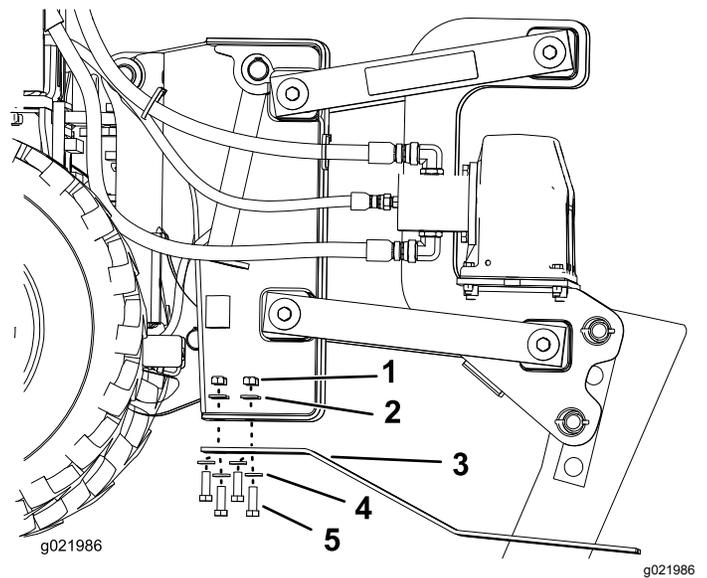

Figure 18
4. Install the new skid shoes and secure them with the previously removed hardware (Figure 18).
3. Remove the 4 bolts, 4 nuts, and 8 washers from the skid shoes (Figure 18).